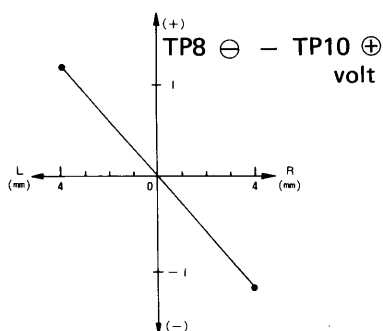

Fig. 6-4
1.25V (ref. Fig. 6-4)
An outline of the tracking sensor circuit is shown in page 21. When the stylus is positioned exactly at right angles to the carrier, the lamp beam is directed practically equally onto both CdS elements, which means that the resistance in both elements will also be more or less equal. These 2 elements form part of a Wheatstone bridge with R93, R94, and VR8, this latter variable control being adjusted so that no potential difference is generated across TP8 and TP10 when the stylus is located at right angles to the carrier. If the stylus should happen to move to either left or right, the amount of light striking the CdS elements will change, resulting in the resistance of one element being increased, and the resistance in the other element being decreased. A potential difference will thus be generated across TP8 and TP10. The relation between stylus movement and the potential difference generated is shown in grasp form in Fig. 6-4. VR7 is used for adjustment purposes.